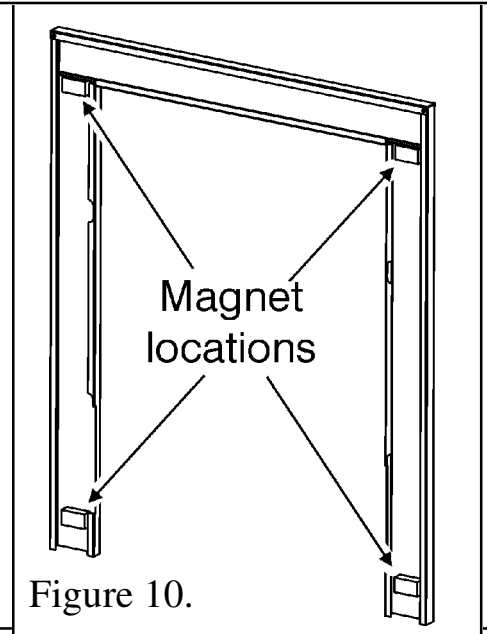

Figure 10.
1. Removing the fascia trim may have moved the magnets used to fix it to the heater. The magnets should be located as in figure 10.
2. Removing the fascia trim may have moved the magnets used to fix it to the heater. The magnets should be located as in figure 10.